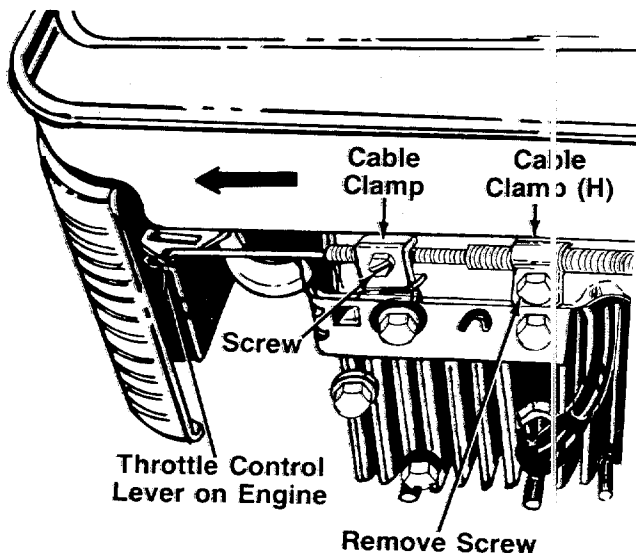
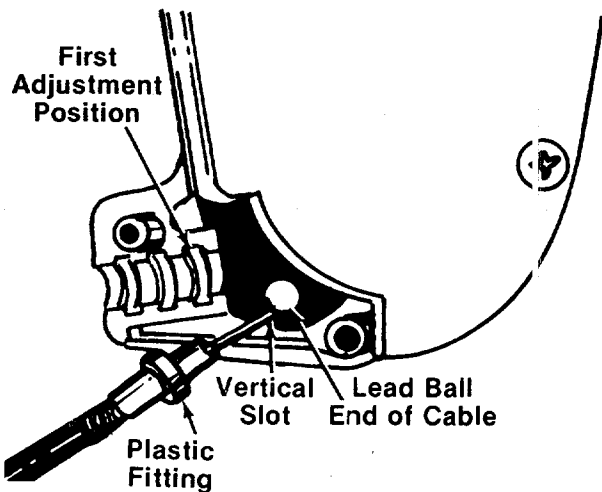

FIGURE 7.
FIGURE 8.
10. Using a 7/16" wrench, remove the screw on the engine shown in figure 7.
11. Remove the screw on the cable clamp shown in figure 7. Slip the control casing under the clamp. Replace the screw, but do not tighten (cable must still move freely beneath the clamp).
12. Slide the throttle control lever on the engine as far toward the **outside** of the engine as it will go **easily** (just until resistance is felt) as shown in figure 7. (**Do not** force it into the extreme outside position, which is the **CHOKE** position). Tighten the screw to secure the throttle control cable in this position.
14. Secure cable casing to the front of engine with cable clamp (H) provided in hardware pack and screw removed from engine in step 10. Do not overtighten.
a. Place the lead ball end of the cable into the fitting provided in the end of the clutch control lever. Slip the braided wire into the vertical slot as shown in figure 8.
c. Place the plastic fitting on the control cable into the first adjustment position in the clutch control housing. See figure 8.